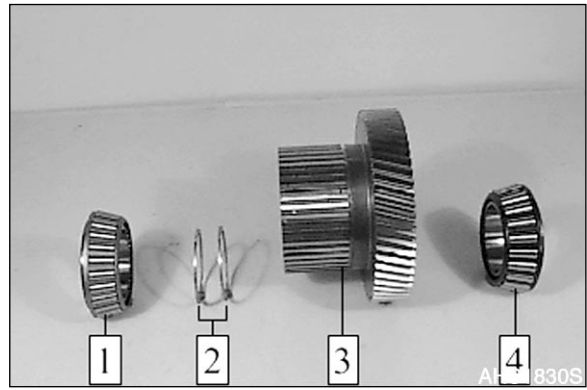
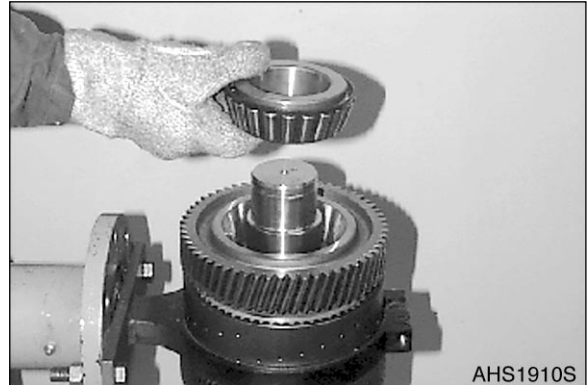

Figure 222
Figure 230
2. Pre-assemble and install Spur gear KR (Figure 222 - Figure 230)
A. Figure 222, shows the components of spur gear KR.
NOTE: *In case of deviations from the required axial play, correct with corresponding shims (Item 2/ Figure 222).*